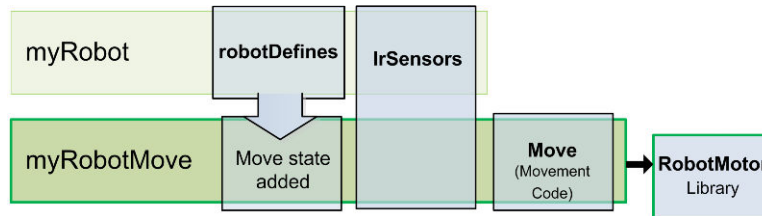

Figure 7-1. *myRobotMove Sketch*
- `MyRobotMove.ino`—This sketch shows how to use higher level movement functions. Constants for defining the current robot movement are added to the `robotDefines` tab. A new tab named `Move` is added that contains the high level movement functions. The `IrSensor` tab and `RobotMotor` library are unchanged (Figure 7-1).